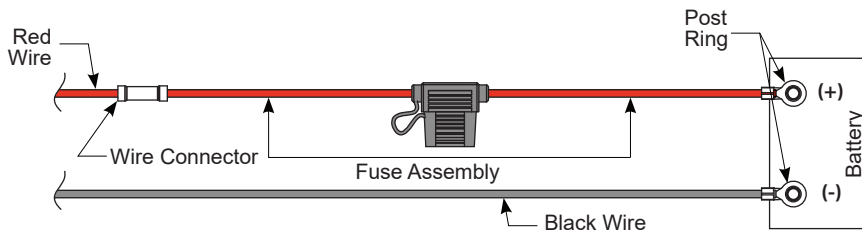

Figure 8
3. Insert one end of the fuse assembly wire into a wire connector (included) and crimp. Insert the red power cord wire into the other end of the wire connector and crimp. Make sure the fuse assembly is positioned outside of hazardous areas and as close to the battery as possible (see Figure 8).
5. Connect the red wire/fuse assembly to the positive side of the battery (see Figure 8), and connect the black power cord wire to the negative side of the battery.